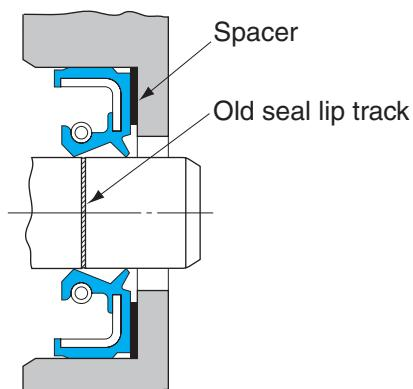

Fig. 1.7.10 Avoid old seal lip track
- 9) When oil seal is removed, use a new oil seal instead of the seal used. Contact position of new seal lip on the shaft should be displaced to 0.5 mm (1~2 mm for large-size seals) from the old seal lip contact position by applying spacer as illustrated bellow (Fig. 1.7.10).